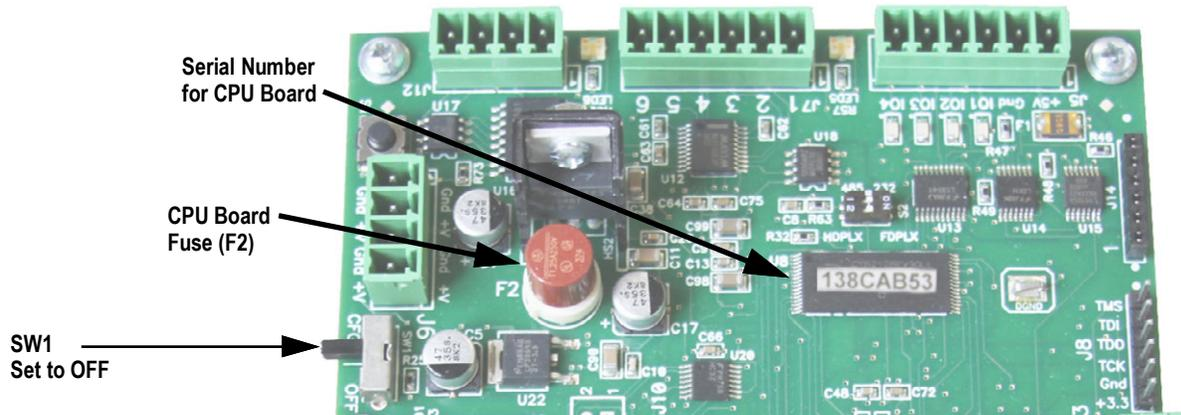

Figure 4-1. SW1 Location on CPU Board
4. Locate the serial number on the secondary board (see Figure 4-1 on page 55).